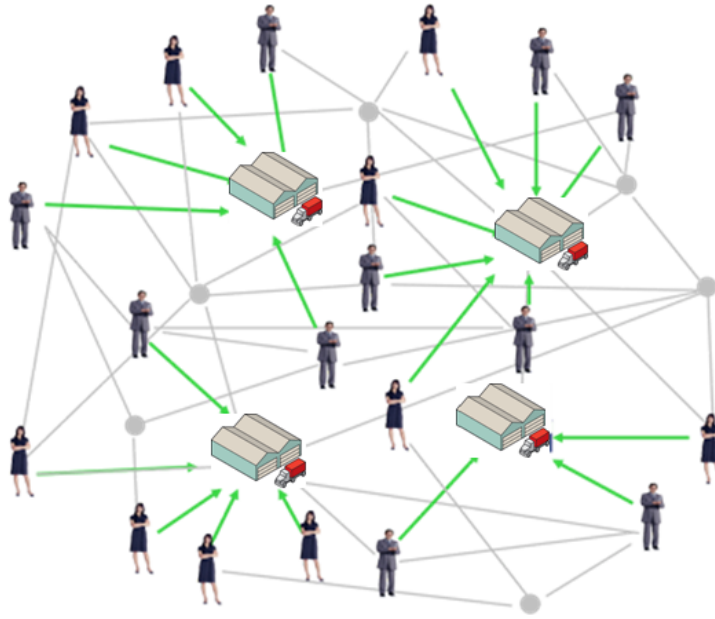

Figure 1: Example of facility location, customer allocation, and vehicle management.
Figure 1 presents an example of the integrated facility location customer allocation problem.
In this setting, we are given a set of potential locations to open facilities (the gray nodes in the network) and a set of customers to serve using a fleet of identical vehicles. The cost of opening a facility depends on the particular location. Each facility has a maximum capacity to serve its customers. Each customer is served by exactly one open facility (the buildings in Figure 1) using a vehicle (the trucks next to each building). Customers are served in round-trips meeting their demand in full. That means, in the worst case, a facility can serve each customer with a different vehicle, hence, the total number of vehicles needed at the location is bounded by the number of customers allocated. Ideally, the same vehicle can
1. which facilities to open (the buildings in Figure 1).